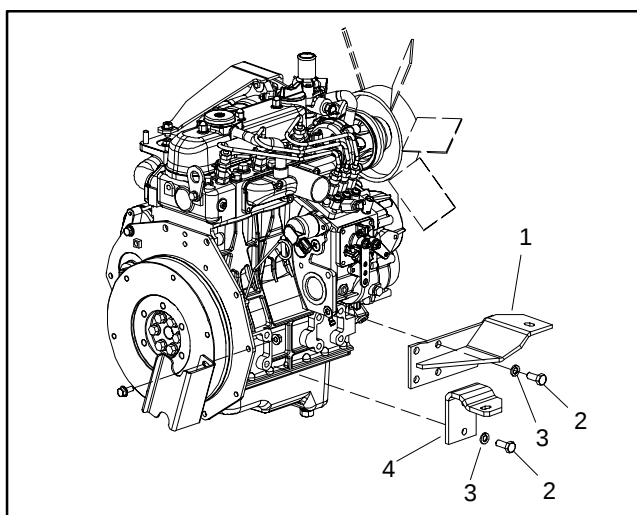

Figure 12
17. If necessary, remove engine brackets from engine (Fig. 12 and 13).
4. If engine brackets were removed from the engine, reinstall them to engine (Fig. 12 and 13).
5. If engine mount brackets (items 2 and 11) were removed from frame, secure them to frame with cap screws and lock washers. Torque screws from 50 to 60 ft-lb (68 to 81 N-m).